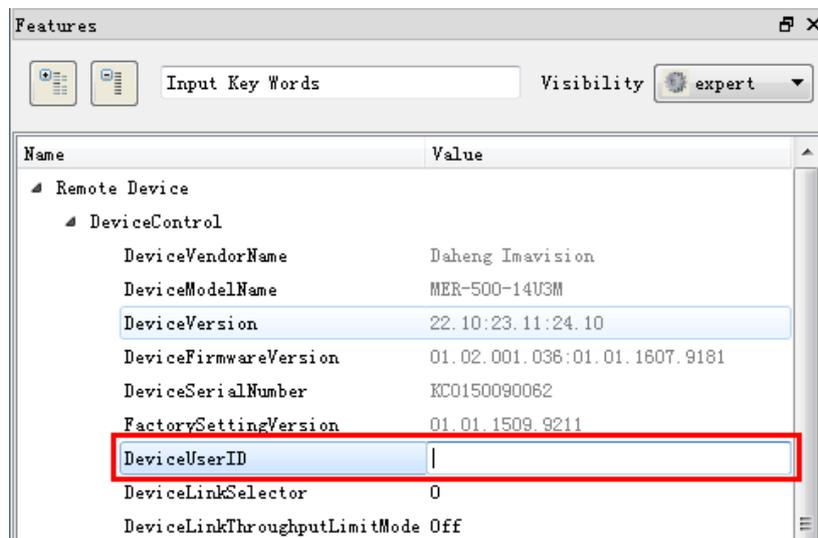

Figure 8-49 GalxyView software
- 1) Set by the GalxyView, as shown in the Figure 8-49.